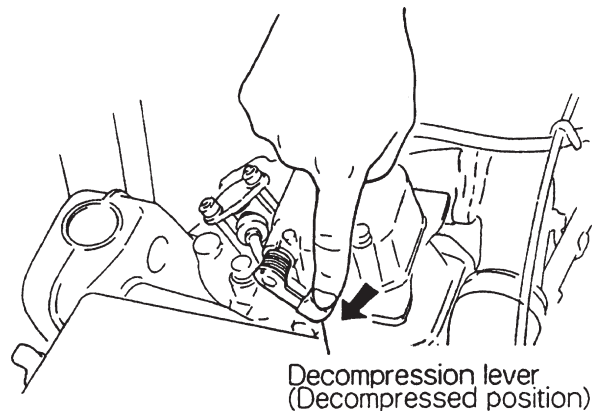

Figure 7. Decompression Lever
3. Press the decompression lever to release decompression. The decompression lever will return automatically when the recoil starter is pulled. (See Figure 7).